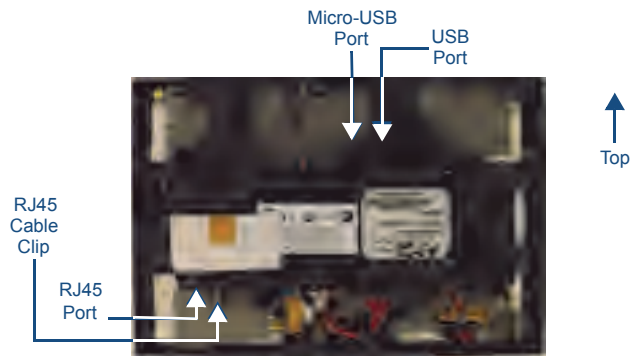
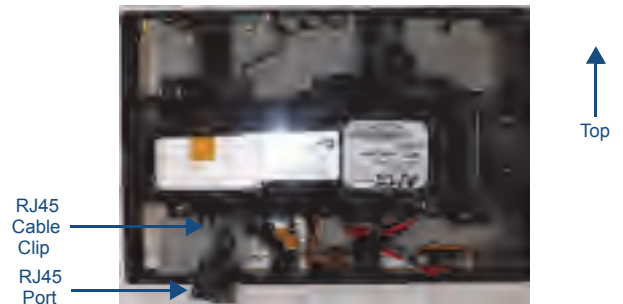

FIG. 2 Rear of the MXD-1001 (Landscape)
FIG. 3 Rear of the MXD-1001 (detail of the RJ45 connection)
FIG. 2 shows the connectors located on the underside of the MXD-1001. The Micro-USB port is used for camera video output.
Power for the MXD-1001 is supplied via Power Over Ethernet (PoE), utilizing an AMX-certified, capacitive touch-compliant PoE injector such as the PS-POE-AT High Power PoE Injector (FG423-81) or other approved AMX PoE power source. The incoming Ethernet cable should be connected to the RJ45 port on the MXD-1001 (FIG. 2 and FIG. 3).
10. Insert each connector into its corresponding location along the back of the MXD-1001. Gently pull the RJ45 adapter from underneath the electronics cover (FIG. 3), attach the RJ45 cable, and push the connection back under the cover. Lock the RJ45 cable into the clip above the cable connection (FIG. 2) to facilitate the rest of the installation.